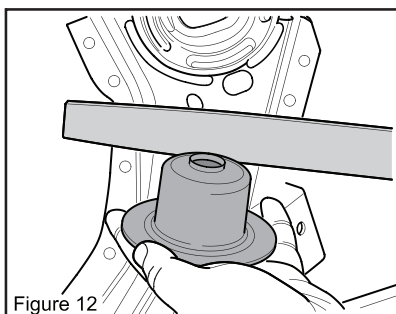

Figure 12
12. Prepare the removed washer for re-installation by lightly filing the pressed washer nose to remove burrs. (Figure 12).